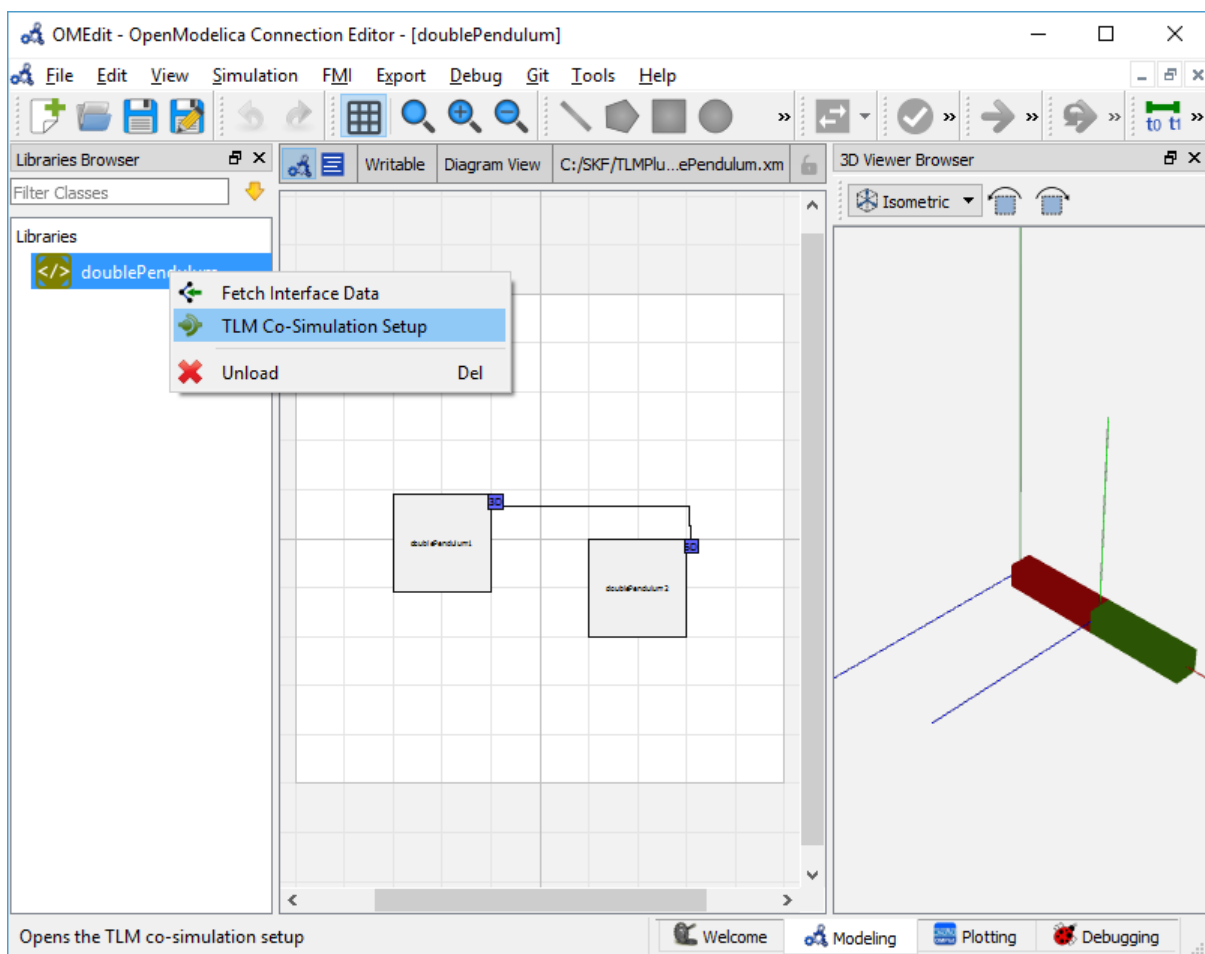

Figure 11.3: Co-simulating and Fetching Interface Data of a composite model from the Popup Menu .
- Right click the composite model in the **Libraries Browser** and choose **TLM Co-Simulation setup** from the popup menu (see Figure 11.3)
- Right click the composite model in the **Library Browser** and choose **Fetch Interface Data** from the popup menu (see Figure 11.3).